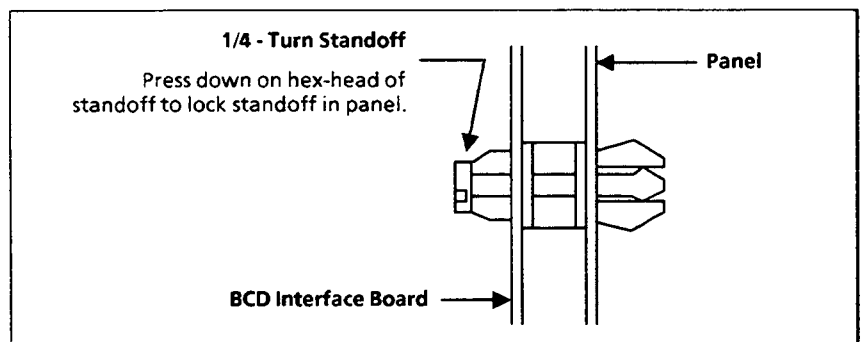

Figure 2 – Board Installation
4. Drill four (4) - 1/4" (6.35mm) holes at the locations marked in the previous step.
6. Install the board onto the standoffs and lock in place. See Figure 2.